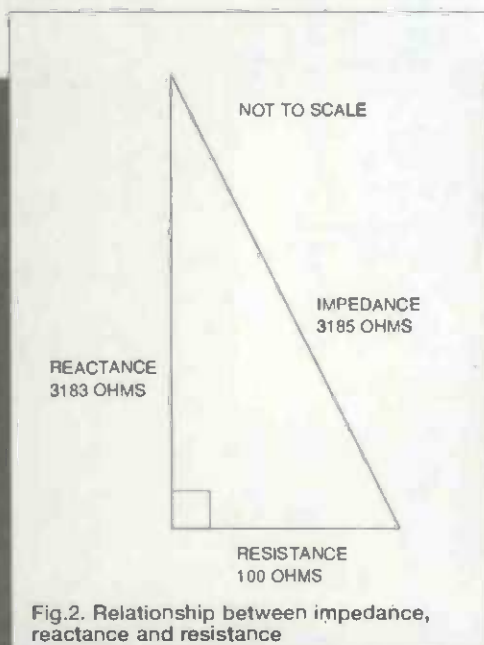

Fig.2. Relationship between impedance, reactance and resistance
The impedance (Z) is the combined effect of reactance and resistance - they cannot be simply added together. Here, the solution involves using a right-angled triangle - see Fig. 2. The lengths of the two sides at right angles represent the resistance and capacitive reactance and the hypotenuse represents the impedance. Conventionally, the side representing capacitive reactance would be drawn projecting downwards but for this purpose it does not matter. If this diagram were drawn to scale, it would be obvious that the "resistance" side (100Ω) would be very small compared with the "reactance" one (3183Ω). The hypotenuse would therefore be only slightly longer than the capacitive reactance side. Pythagoras' Theorem may be used to calculate it thus: